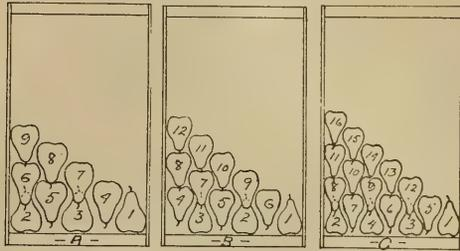

Fig. 19.—Shows the way to start a three-two pack (a); three-three pack (b); four-three pack (c).
2. Place the pears as 1, 2, 3, 4, 5, 6, 7, 8, 9 of cut A in Fig 19.
1. Place the pears as 1, 2, 3, etc., of cut C in Fig. 19.